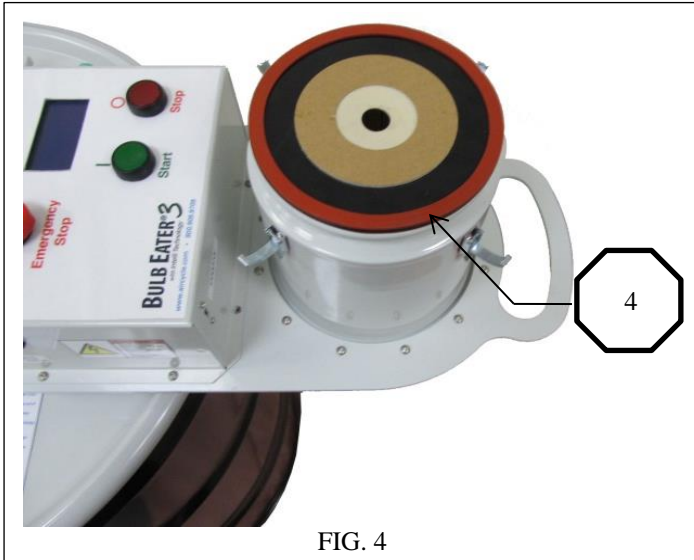

FIG. 4
4. Place the 2nd stage cartridge filter into the upper housing of the vacuum housing assembly. **Figure 4**